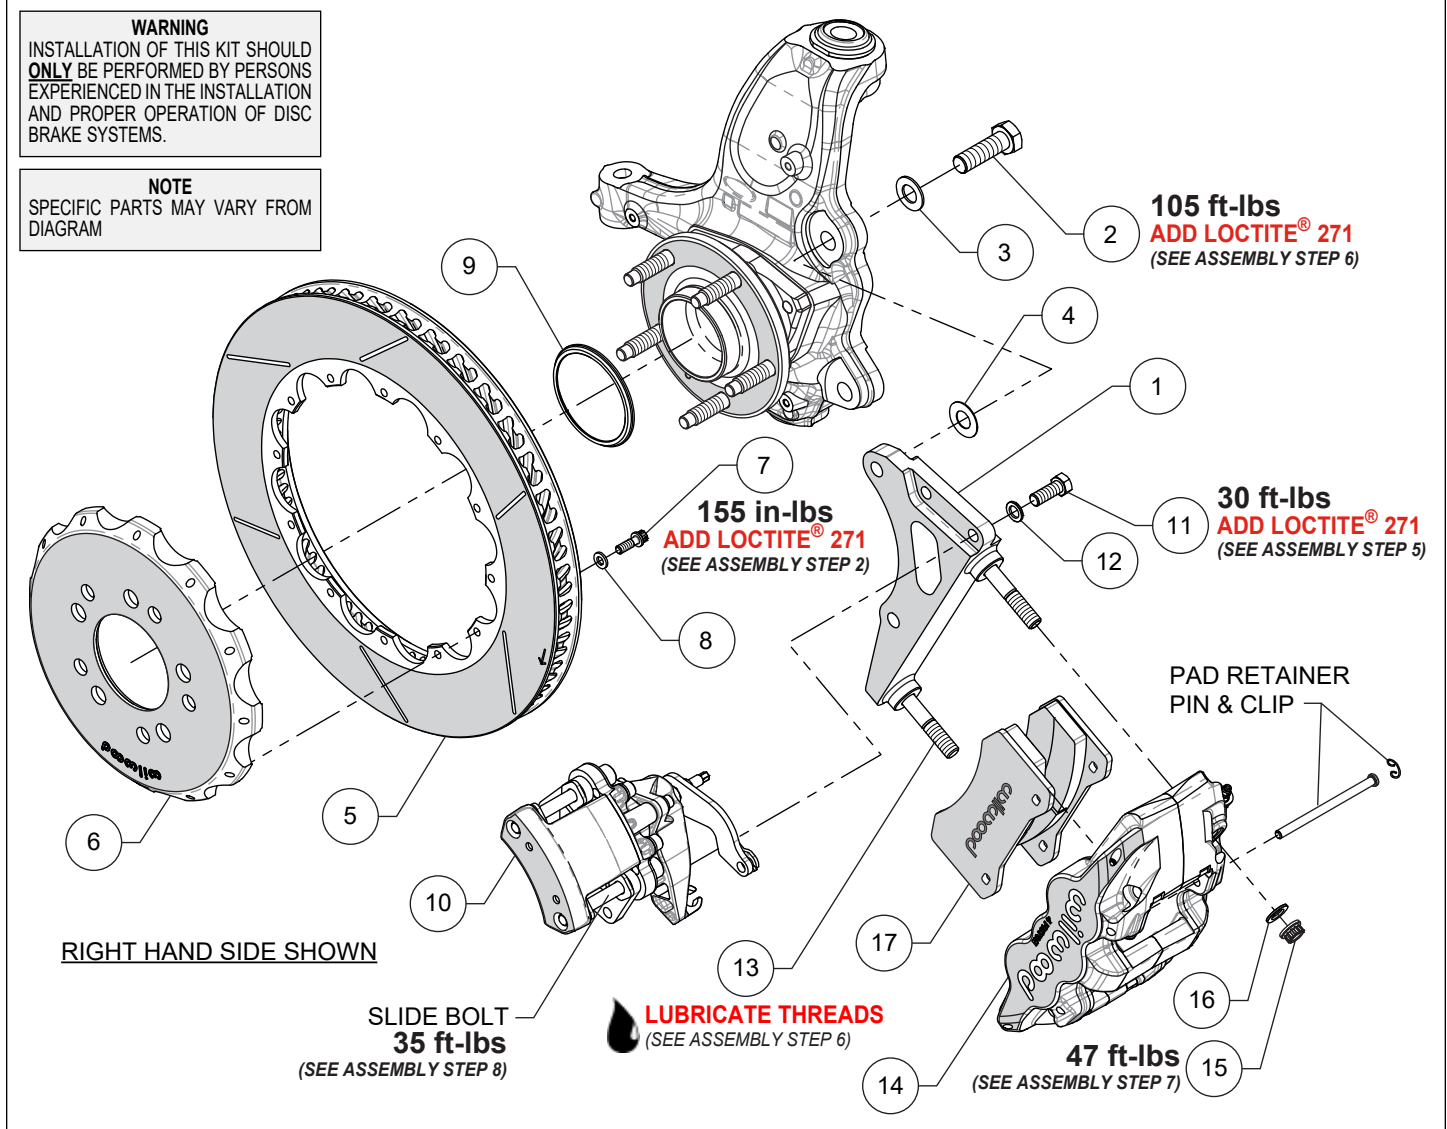
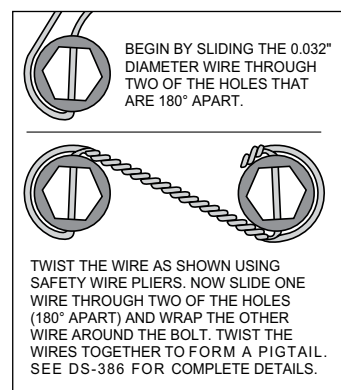

Figure 1. Typical Installation Configuration
Figure 3.
NOTE: Numbers in parenthesis refer to the parts list and Figure 1 on the preceding pages.
STEP 1 The caliper mount bracket (1) should initially be installed with clean, dry threads on the mounting bolts. Orient the bracket, as shown in Figure 1 and Photo 2, and install using bolts (2) and washers (3). Initially place one .029" thick shim (4) on each bolt between the bracket and upright, Figure 1, Photo 1. Temporarily tighten the mounting bolts. **NOTE:** The bracket must fit squarely against the mount bosses on the upright.
STEP 2 Orient the rotor (5) and the hat (6) as shown in Figure 1 and Photo 3. Attach rotor to hat using bolts (7) and washers (8). Apply red *Loctite*® 271 to the bolt threads and torque to value shown in Figure 1 using a criss-cross pattern. For an added measure of security, the bolts may be safety wired using standard 0.032 inch diameter stainless steel safety wire as shown in Figure 3. Refer to Wilwood's data sheet DS-386 (available at www.wilwood.com/Pdf/DataSheets/ds386.pdf) for complete safety wire installation instructions.
STEP 3 Slide the rotor registration adapter (9) onto the axle register on the axle hub with the smaller O.D. facing outward, Photo 4.
parking brake caliper assembly (10) by removing the two slide bolts, see Photo 6 for details. Orient the parking brake caliper mount bracket as shown in Photo 7 and attach to caliper mounting bracket (1) using bolts (11) and washers (12). Apply red *Loctite*® 271 to the threads and torque bolts to value indicated in Figure 1.
STEP 6 Lubricate the caliper mounting studs (13) with lightweight oil. Mount the caliper (14) onto the bracket (1) using lock nuts (15) and washers (16), Figure 1. Temporarily tighten the lock nuts. View the rotor through the top opening of the caliper. The rotor should be centered in the caliper, Photo 8. If not, adjust by adding or subtracting shims (4) between the bracket and the upright. Always use the same amount of shims on each of the two mounting bolts. Once the caliper alignment is correct, remove the bracket mounting bolts (2) one at a time, apply red *Loctite*® 271 to the threads, and torque to value shown in Figure 1.
STEP 7 Unmount the caliper from the mounting bracket by removing lock nuts (15) and washers (16). Remove the two pad retaining pins from the caliper (14) by carefully popping out the pin retaining clips and sliding out the pins, see Figure 1. Insert the brake pads (17) into the caliper from the bottom, Figure 1 and Photo 9. With the friction material facing the rotor, secure the brake pads in place with the pad retaining pins and clips. Reinstall the caliper onto the caliper mounting bracket using nuts (15) and washers (16) and torque to value shown in Figure 1.
STEP 8 Slide the parking brake caliper assembly (10) over the rotor and mount to parking brake caliper bracket using slide bolts, see Photos 6 and 10 for reference. Ensure the friction material of the brake pads are facing the rotor. Torque slide bolts to value shown in Figure 1.